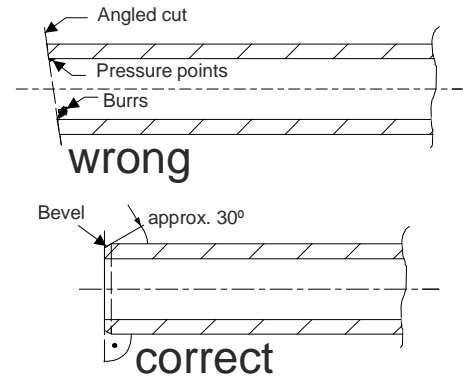

Fig. 6 Cutting the tubes
- The tubes must be cut with a pipe cutter to required lengths. In doing so, ensure that the cut is at a right-angle to the tube axis. Any projecting burrs must be removed **Fig. 6**.
- The ends of the individual tube pieces are to be slightly angled with a suitable tool, e.g. slightly bevel with a pipe peeler, **Fig. 6**.